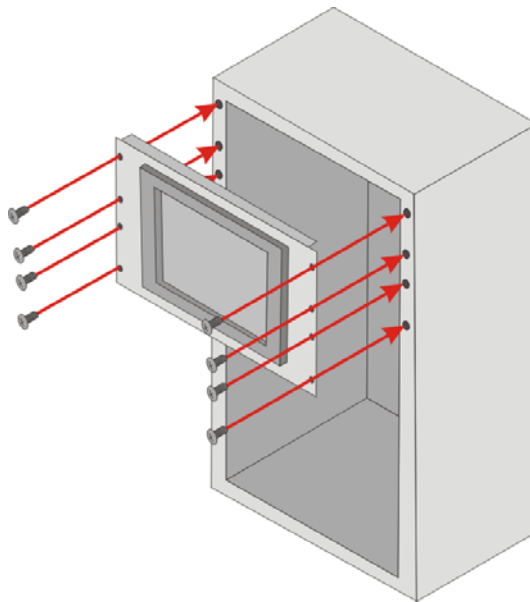

Figure 3-25: Install into a Rack/Cabinet
Step 6: Slide the panel PC with the attached rack/cabinet bracket into a rack or cabinet (Figure 3-25).
Step 7: Once the panel PC with the attached rack/cabinet bracket has been properly inserted into the rack or cabinet, secure the front of the rack/cabinet bracket to the front of the rack or cabinet (**Figure 3-25**).